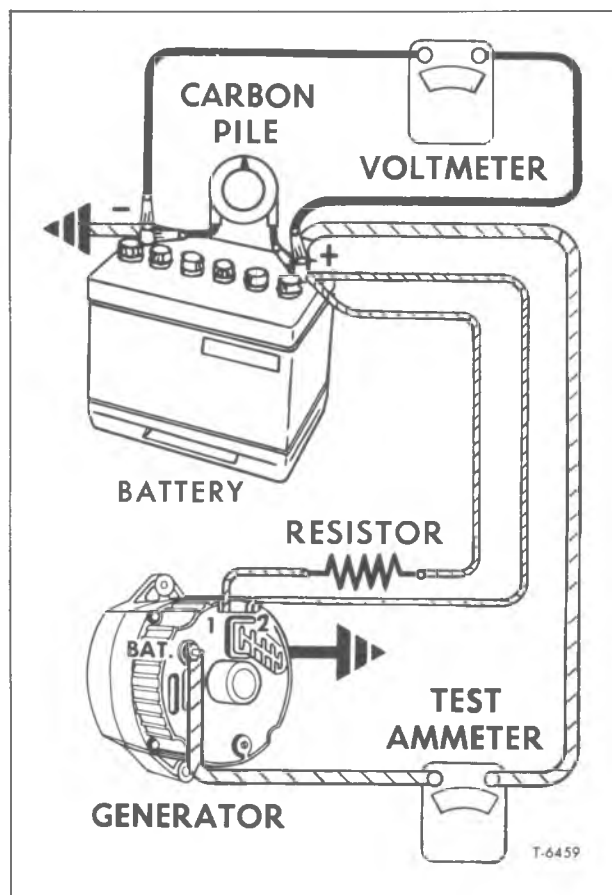

Figure 6—Connections for Testing Generator Output
1. Make connections as shown in figure 6, except leave the carbon pile disconnected. Use a fully charged battery and a 10 ohm resistor rated
4. Connect the carbon pile as shown in figure 6.